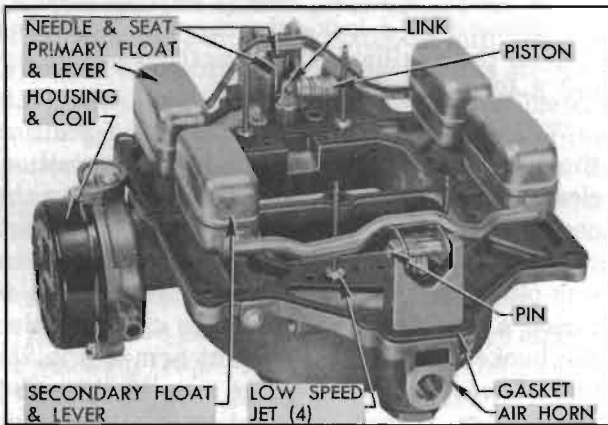

Figure 3-48—Parts on Air Horn (Inverted)
6. Swing vacuumer piston $\frac{1}{4}$ turn to remove it from piston link then remove link from air horn. See figure 3-48.